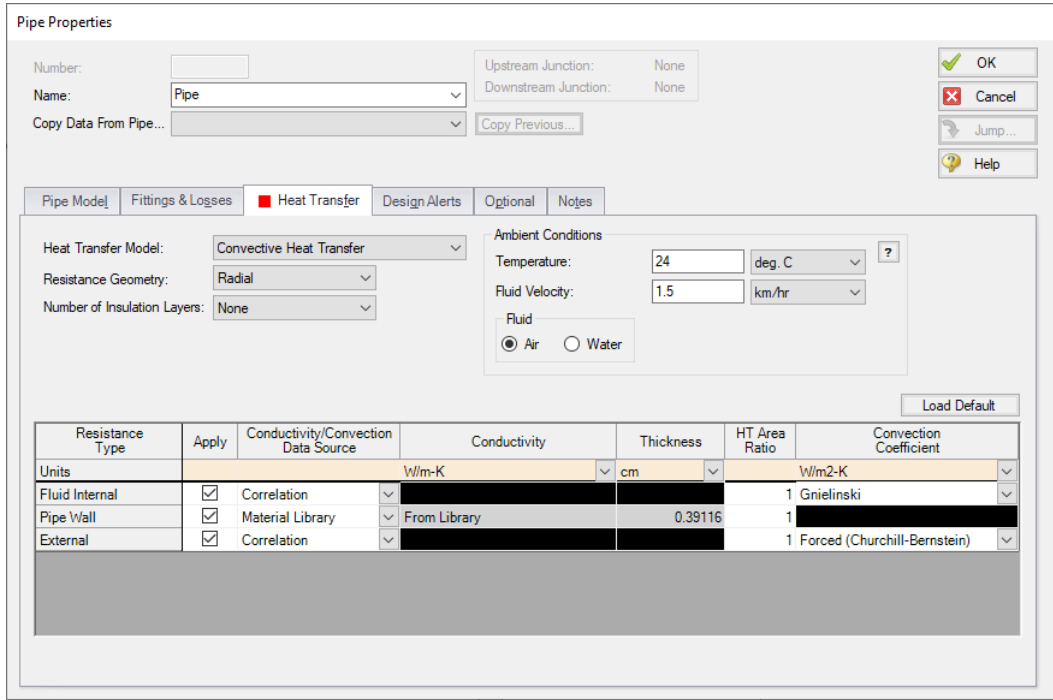

Figure 3.3 The Heat Transfer tab is where you specify heat transfer properties for the pipe
Click on the Heat Transfer tab. Select "Convective Heat Transfer" for the Heat Transfer Model, and enter 24 deg. C for the Ambient Temperature and 1.5 km/hr for the Fluid Velocity with Air as the fluid. Also, ensure that the Gnielinski correlation is selected under the Convection Coefficient column in the Fluid Internal row, and that Forced (Churchill-Bernstein) is chosen in the External row. The Pipe Properties window should appear as shown in Figure 3.3. Select OK.
2. For this case, you should use the highest ambient temperature of 24 deg. C and minimum velocity of 1.5 km/hr which will yield the lowest heat loss. Since you used this same data when you added the pipe heat transfer data in the Base Scenario using the Global Pipe Edit feature (Step 3), the pipes in this scenario have already inherited this heat transfer data, so no change in the heat transfer data is necessary. To verify this, click on Pipe P2 to open the Pipe Properties window. Select the Heat Transfer tab. The data should appear the same as shown in Figure 3.3.